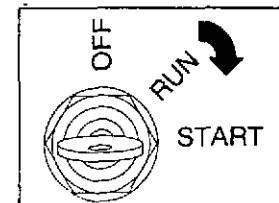

FIGURE 3
3. Be sure stop switch is away from spark plug (Fig.3) or slide lever/switch is moved to on position (Fig. 3, 4, 4A, 4B or 4C).
Gradually remove all the load from the generator, to stop the engine, push the stop switch against the end of the spark plug until the engine comes to a complete stop (Fig. 3 or 7) or turn the key to off.